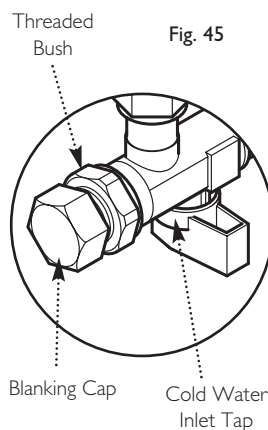

Fig. 45
20. Turn the tap off. Undo the blanking cap and remove the thread bush (Fig. 45).